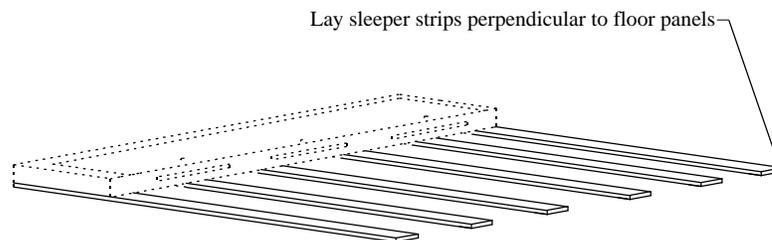

Figure 1 - Laying Out The Sleepers
3. If floor design includes optional sleeper strips, lay strips provided perpendicular to the prefabricated floor panels (across floor panel joints) approximately 16" on center (see figure 1). Appropriate spacing is indicated in the shop drawings.